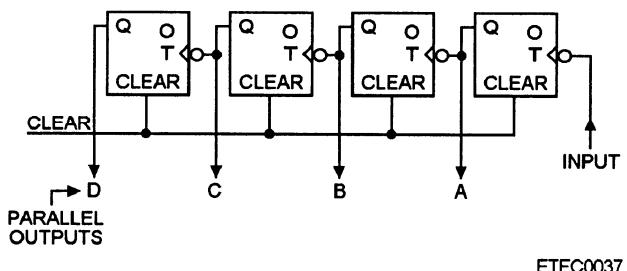

Figure 4-13.—Example of an asynchronous operation with a flip-flop.
• Asynchronous operations —This term describes the operation of logic functions that are **not** controlled by the occurrence of a specific timing pulse. Refer to figure 4-13.